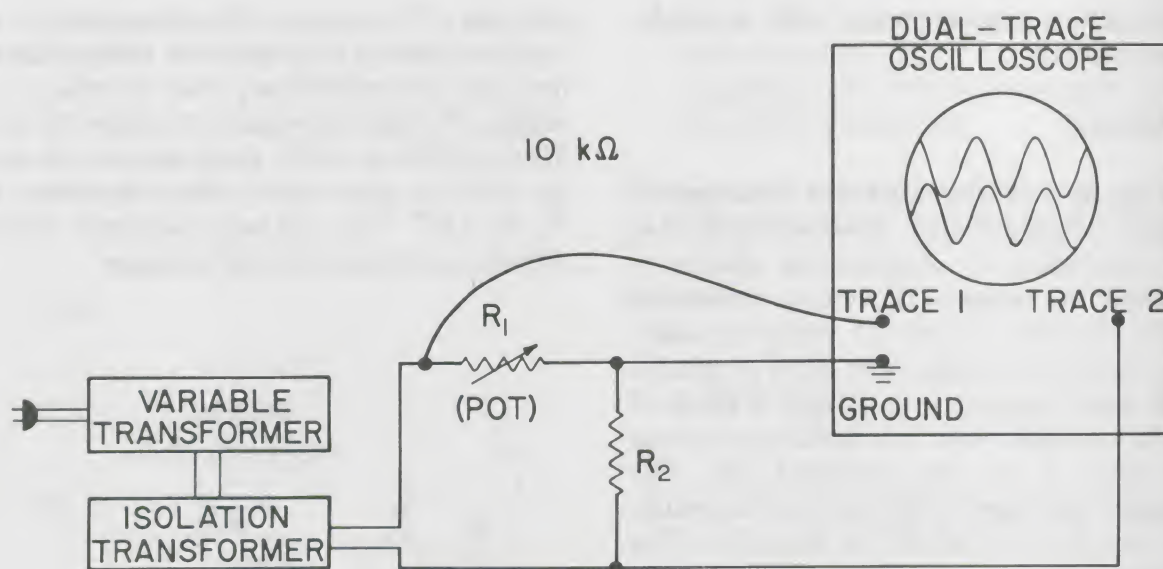

Figure 23. Finding the relative phase of the voltages across two resistors in series.
1. Connect a resistor and a *potentiometer* (variable resistor) in series across the output of the variable transformer-isolation transformer combination, as in Figure 23. Use a potentiometer with a total resistance of about  $10\text{ k}\Omega$  and a resistor of  $3\text{ k}\Omega$  or so. By connecting only the center tap and one end of the “pot” into the circuit, the value of  $R_1$  can be varied simply by turning the knob of the pot.
2. An easy way to display two voltages and measure their relative phase is with a dual-trace oscilloscope. (Alternatively, a scope attachment called a *display alternator* may be used with a single-trace scope.) The common “ground” connection of the two scope inputs should be connected between the two resistors, as indicated in Figure 23. (It is a common error to connect two leads from each scope input to the circuit. If that is done